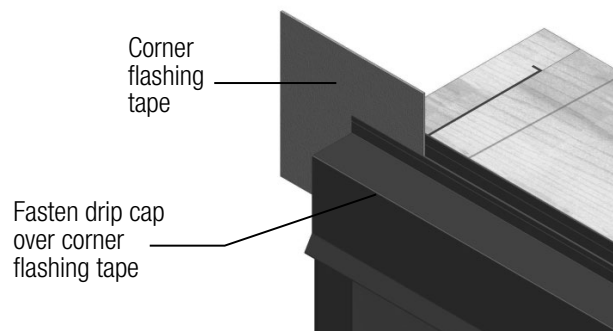

FIG. 17
- B) Apply a 1/4" continuous bead of 100% silicone sealant to the backside of the drip cap nailing leg. Install the drip cap flashing across the top of the door. Secure it to the framing using galvanized roofing nails near the top of the vertical leg. (Fig.17)